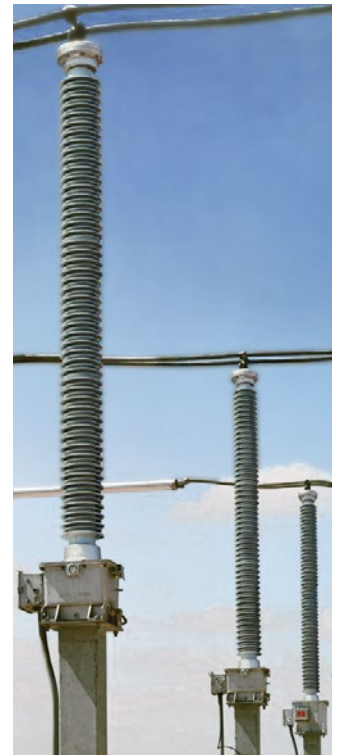

Fig. 4.6-7: 245 kV capacitor voltage transformers
Coupling capacitors (CC) are utilized to couple high-frequency carrier signals to the power line. A CC supplied with an electromagnetic unit is called a capacitor voltage transformer (CVT) and is used to provide voltage for metering and protection applications (fig. 4.6-7).